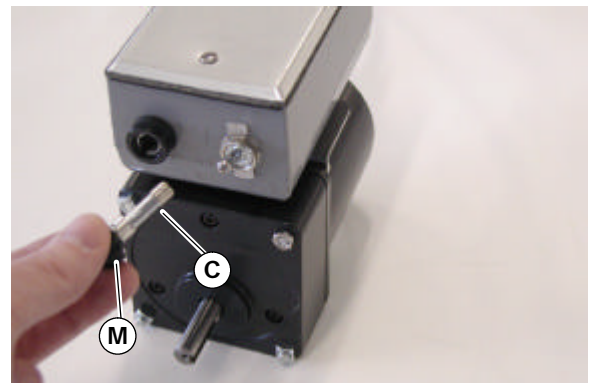

Figure 24
**17.** Insert new 1/2 Amp. fuse (C of Figure 24) and reinstall fuse holder cover (M).